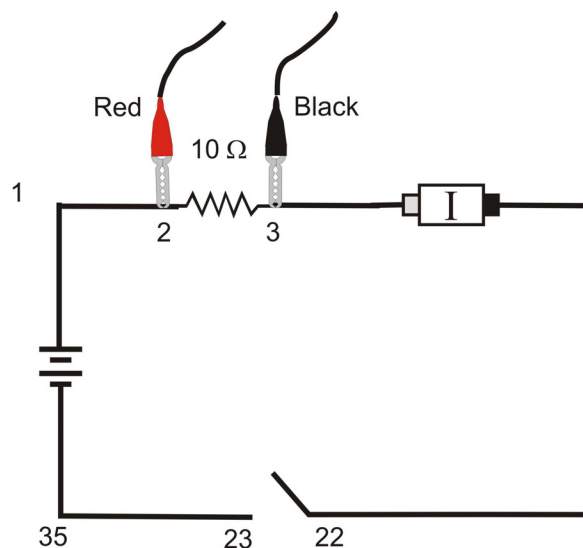

Figure 1
3. With the power supply turned off, connect the power supply, 10 Ω resistor, wires, and clips as shown in Figure 1. Take care that the positive lead from the power supply and the red terminal from the Current & Voltage Probe are connected as shown in Figure 1. **Note:** Attach the red connectors electrically closer to the positive side of the power supply.